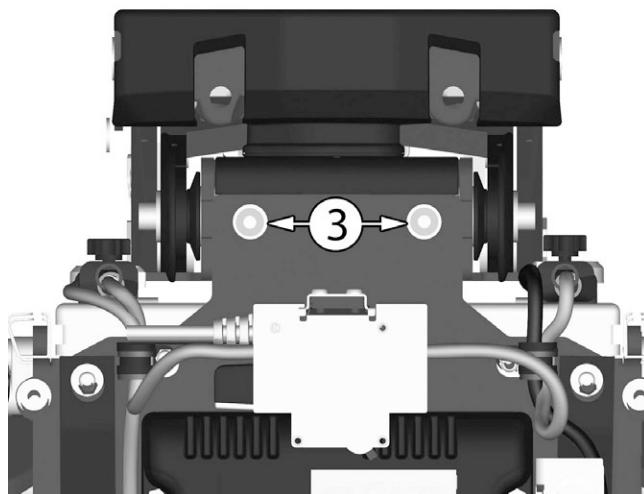

Figure 96. The two screws holding the AP Elevator at the back.
2. Fit the two screws (3) holding the AP Elevator at the back. Use a torque wrench to tighten the screws. **Tightening torque: 24 Nm / 17.7 Ft/lbs.** See fig. 96.